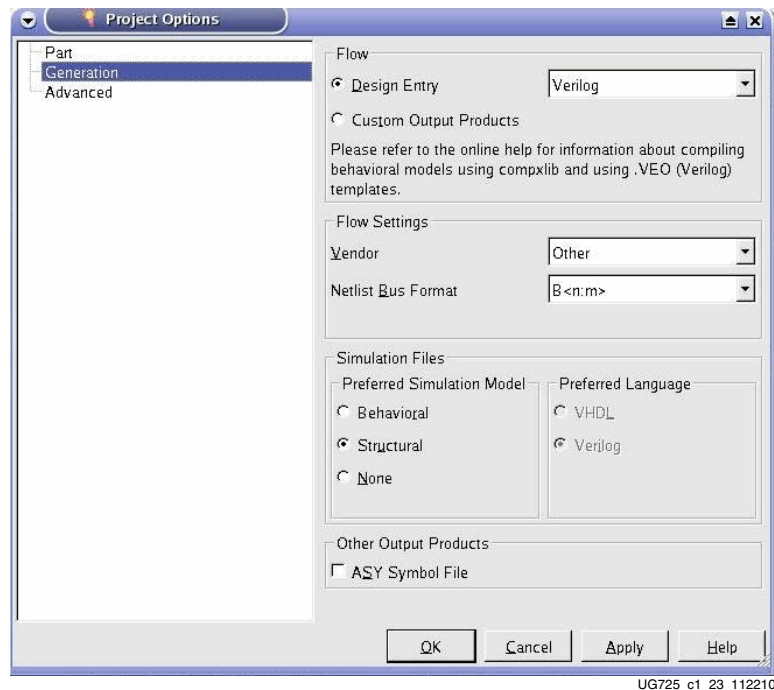

Figure 1-20: Generation Options
7. In the Project Options window, click **Generation** and select **Verilog** for **Design Entry**, select **Structural** for **Preferred Simulation Model**, and uncheck the box for **ASY Symbol File**. Leave the other settings unchanged. Figure 1-20 shows the correct settings.